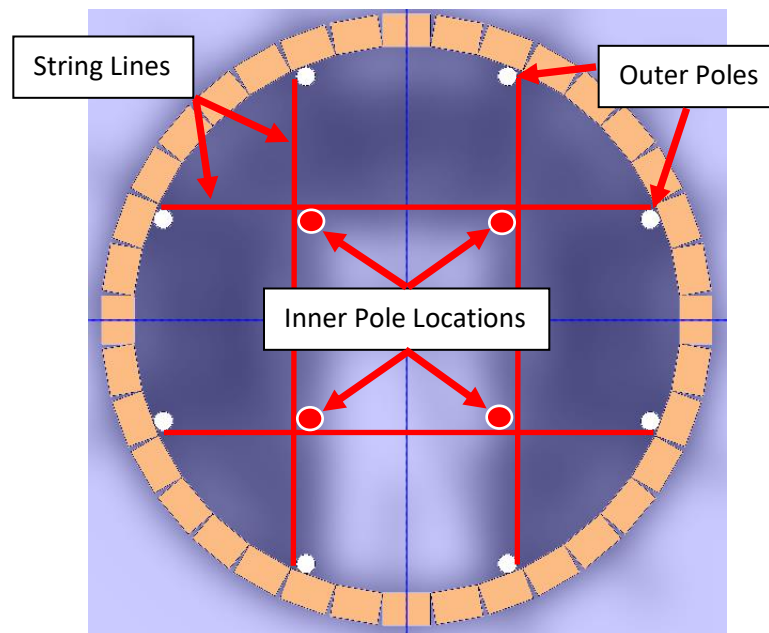

Figure 3
11. **Locating the Inner Timber Poles:** The outer eight poles now standing solid, pull strings across the circle from pole to pole as shown in Figure 3 below. The quadrants adjacent to the string intersections identify the locations of the four inner timber poles. Mark the pole locations and excavate to a depth of 60 cm, again keeping the hole diameter large enough to accommodate tamping damp course or pouring in concrete.